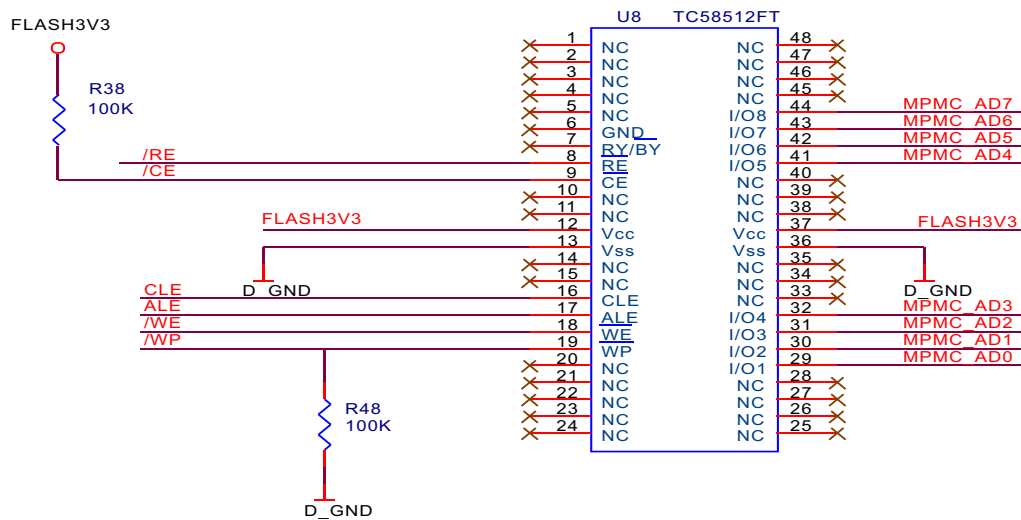

Figure 3.2.1.1 Flash circuit schematic diagram
Block diagram is shown in the figure 3.2.1.1:
1. FLASH circuit schematic diagram is shown in the following figure 3.2.1.1: